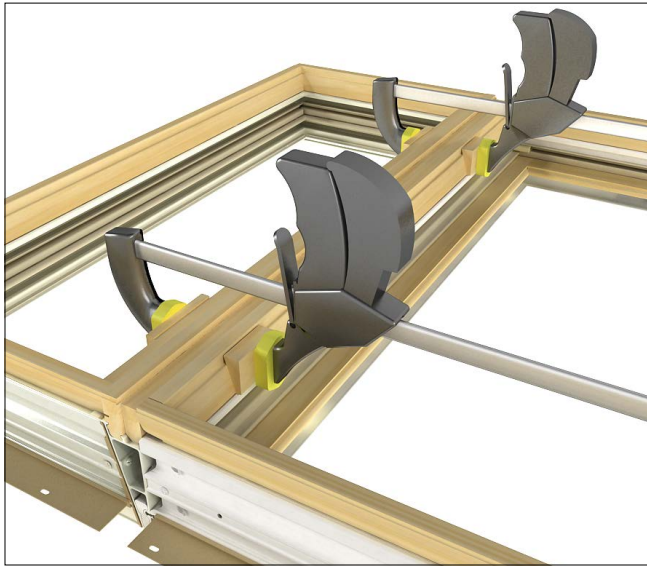

Figure 11
- Position the units together in the desired configuration. Check to be sure that the frames at both ends of the mullion are flush and the nailing fin kerfs are aligned. Lightly clamp units together on interior (use wood blocks to protect interior) near each end to hold the 2 sided mullied units in place. See figure 11.